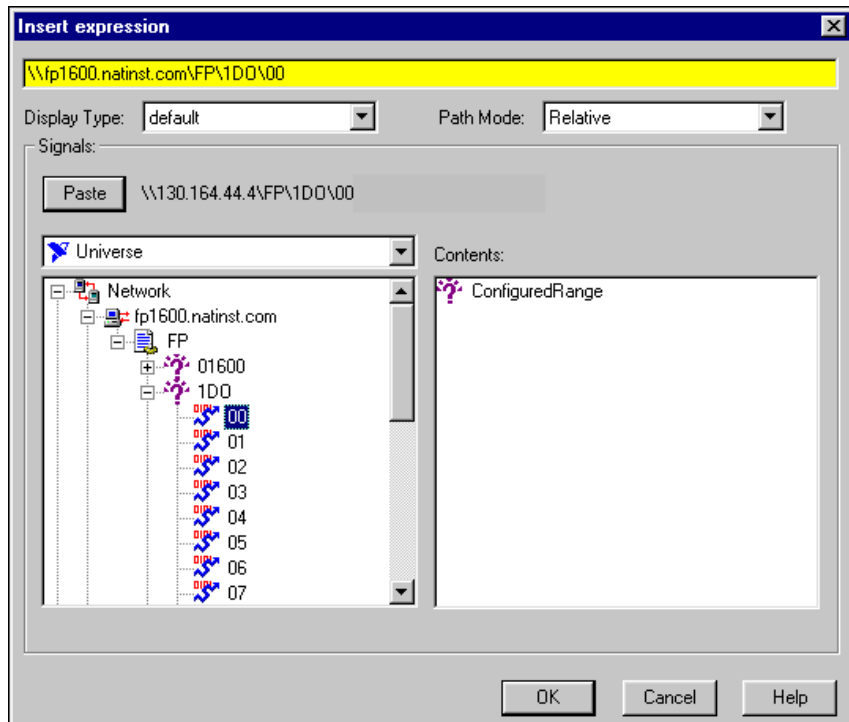

Figure 3-8. Accessing Data in Lookout
4. When you create a Lookout object or expression, you can connect it to data on the FP-1600. In the **Insert Expression** dialog box, click on **Network** to browse the registered computers and FP-1600s. Click on the hostname or IP address of the FP-1600 and browse to the desired data. Figure 3-8 shows how you would access the data on **Channel 0** of an **FP-DO-401** connected to an FP-1600 named **fp1600.natinst.com**.